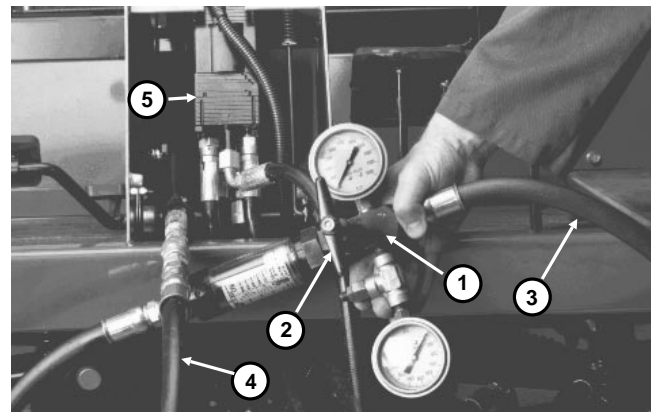

Figure 7a
4. Place a drain pan under the steering valve. Disconnect the hydraulic hose at the AUX port of the steering valve (Fig. 7a).